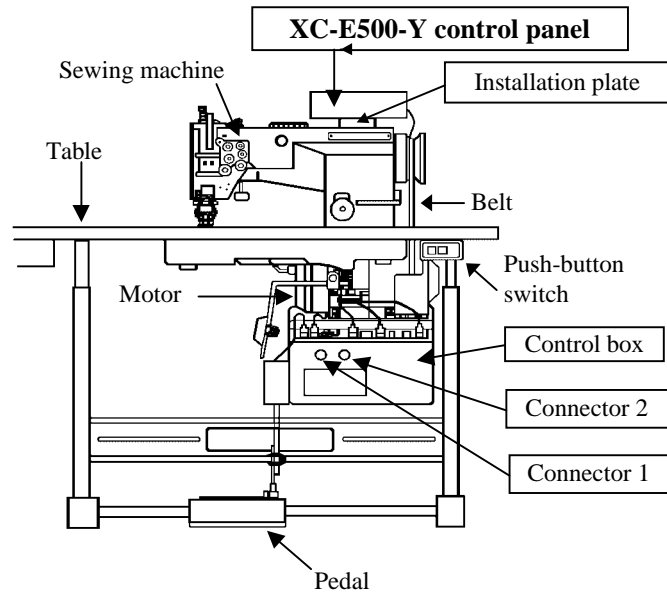

Fig.1
2. INSTALLATION PROCEDURE (See Fig. 1.)